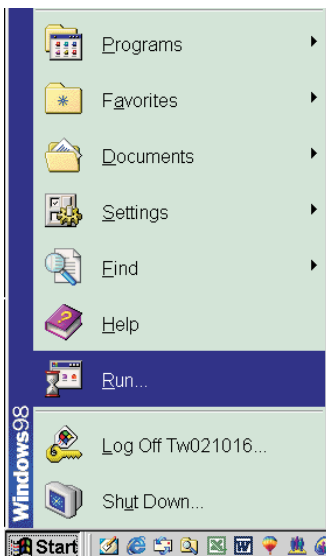

Fig. 6
2. Click Start, choose Run at start menu of Windows as shown In Fig. 6.